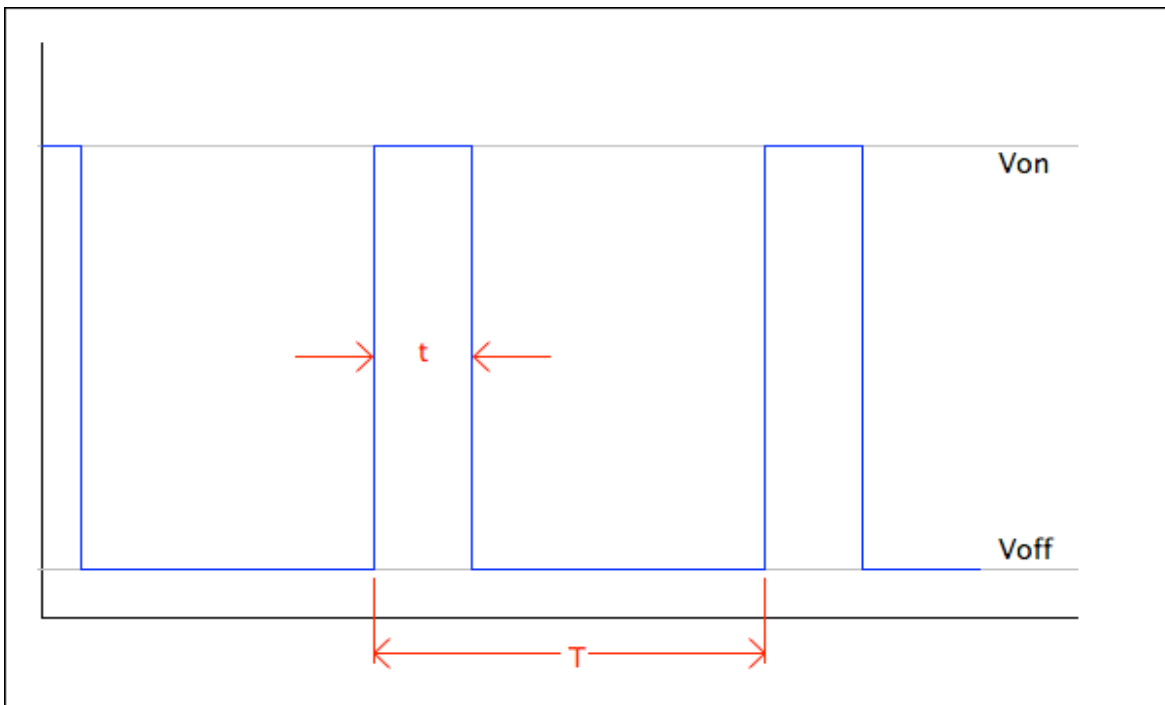

Figure 1 – PWM Parameters
Lets begin with some definitions. For those definitions, please refer to Figure 1.
- PWM Period is the time duration of one PWM cycle. It is denoted by the parameter “T” in Figure 1. In most applications, the period remains constant, though it does not have to.
- Pulse Width is the time during which one PWM cycle is “ON”. Whether or not ON is logic high or logic low depends on the circuit application. In Figure 1, logic high is assumed to be the ON state and the time duration of this interval is marked as “t”.
where V_{on} is the logic voltage level during time “t” (shown in Figure 1) and V_{off} is the logic level during the remainder of the cycle.